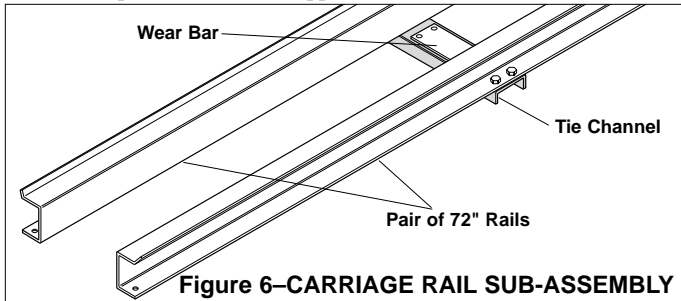

Figure 6-CARRIAGE RAIL SUB-ASSEMBLY
2) Position each pair of rails with opening to the outside and angled flange up (Fig. 6). At mid-length of each pair attach a tie channel (wear bar up) with fasteners supplied.